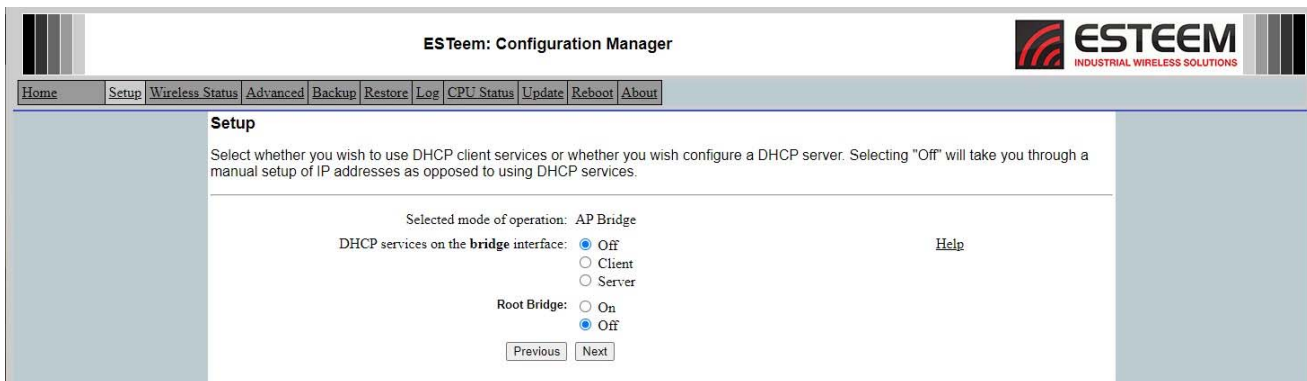

Figure 12: DHCP Settings
- This next screen (Figure 12) sets the DHCP setting for the Ethernet port on the radio. The Ethernet port on the Horizon radio can be configured as either a DHCP client or server as required. The root bridge will be used when Mesh configuration is added to the network (see Chapter 7). To use a fixed IP address, as in this example, select the Off radial and press the “Next” button to continue.